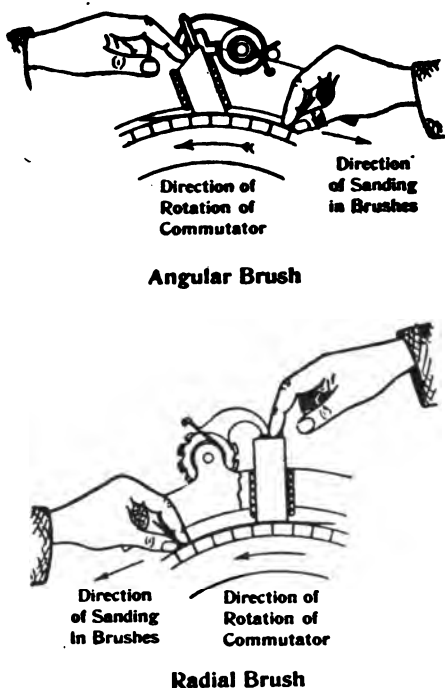

Fig. 337. Methods of Sanding-In Brushes on Dynamotor
**Radial and Angular Brushes.** The brushes employed are of two types—radial and angular. Radial brushes are used on external-regulator type generators other than those having “Type E-49” on the name plate; angular brushes are used on Type E-49 and all inherently regulated generators. Each radial brush should bear squarely against that side of its holder toward which the commutator rotates. Each angular brush should bear squarely against that side of its pocket away from which the commutator rotates. [To sand-in old brushes or fit new brushes properly, insert a strip of No. 00 sandpaper (never use emery, paper, or cloth), between the commutator and the brush, press down on top of brush and draw sandpaper under it, Fig. 337. If the brush is *radial*, draw the sandpaper in the direction of commutator rotation; if *angular*, draw the sandpaper in the direction opposite to that of commutator rotation. No oil is needed on the commutator as the brushes themselves contain all the lubricant necessary.